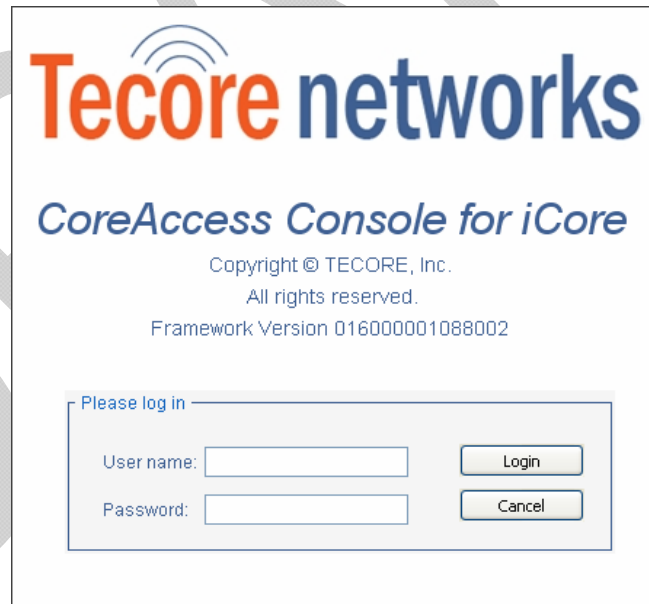

Figure 13 – CoreAccess Console Login Screen
- From the “CoreAccess Console for iCore” window as shown in Figure 13 below, log in using a valid username and password.